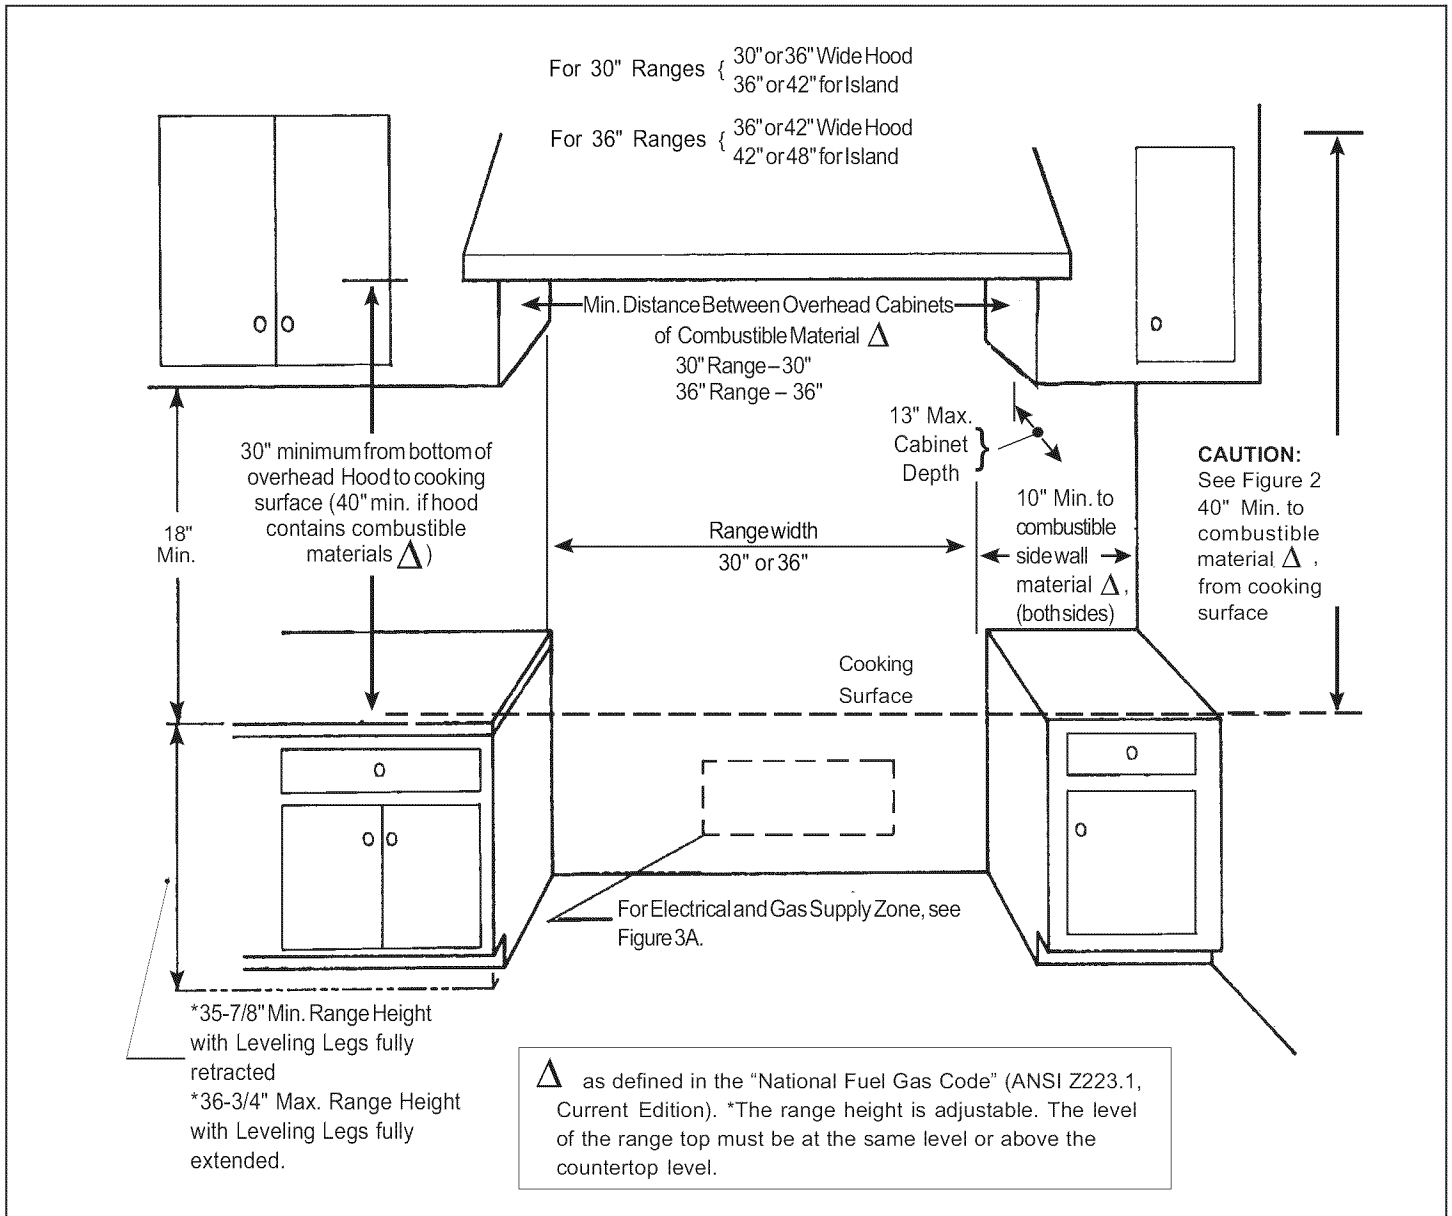

Figure 1: Cabinet Clearances
- For best smoke elimination, the lower edge of the hood should be installed 30" above the range cooking surface. (See Figure 1).
1. The range is a free standing unit. If the unit is to be placed adjacent to cabinets, the clearances shown in Figure 1 are required. The same clearances apply to island installations, except for the overhead cabinets, which must have a space wide enough to accept the flared island hood, as indicated in Figure 1.